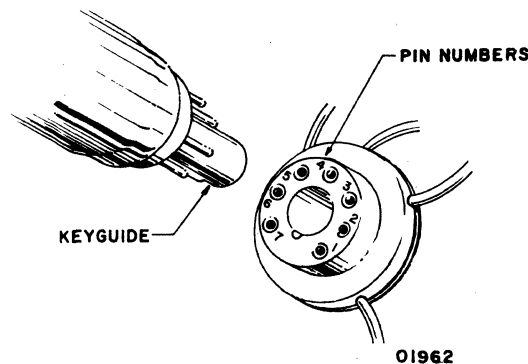

Figure CRT17. CRT Socket Removal
- 4) Pull crt tube socket carefully from end of neck of crt (see figure CRT17). Do not remove vinyl keyguide, which should be in position over end of tube for protection when socket is removed. During installation, keyguide assures that socket is correctly positioned.
- 18) Assure that keyguide is in place over pins on end of crt. Keyguide is illustrated in figures CRT17 and CRT18.